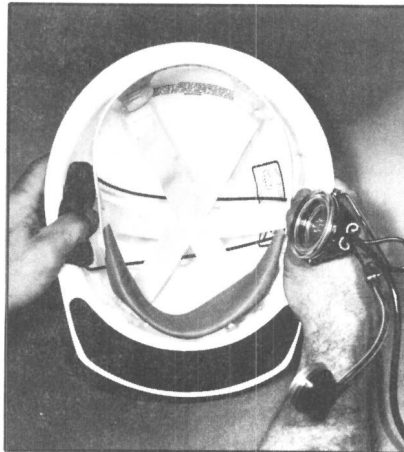

FIGURE 8
d. Place the headset in position by threading the headpiece bracket (from either left or right side depending on which ear the receiver is worn) between the sweatband and the side hanger key, sliding it along the nylon cross strap so the leather pad rides on the strap and the strap is between the bracket supporting wires. Continue to slide the free end under the two long straps and emerge between the sweatband and the side hanger key. The headset is now installed. Hold the headset in this position, spreading the bracket toward the sides of the safety cap. See Figure 8.